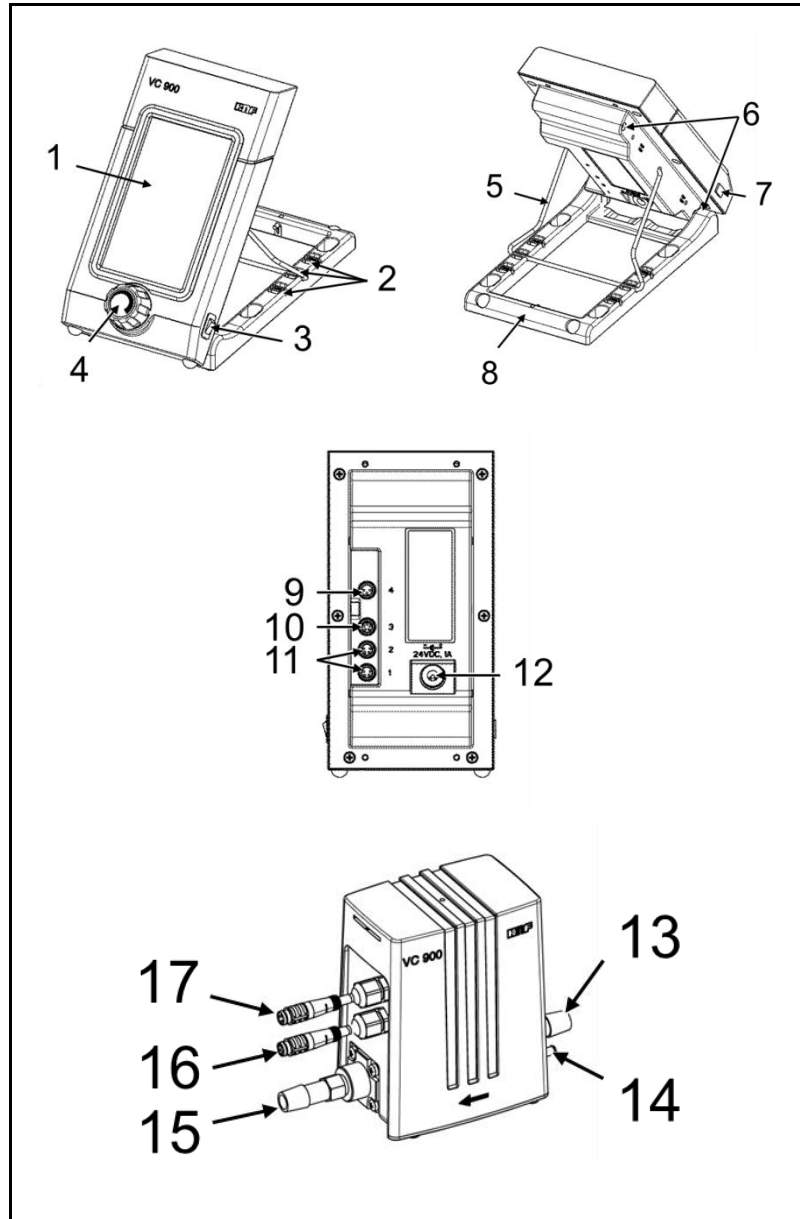

Fig. 1: Vacuum Controller VC 900
Ventilating the VC 900	When ventilating the VC 900 with air or inert gas, be sure to prevent formation of reactive or explosive media. The maximum permissible operating pressure at the ventilation connection (Fig. 1/14, p. 12) is 0.1 bar g.
You can operate the vacuum controller either via the touch display and the rotary/push knob (Fig. 1/1 and 4, p. 12) or via a PC. Use the mini USB interface for PC operation (7).
The angle of the vacuum controller can be adjusted by the positions of the foot and the wire support (mounting options, see Fig. 1/2).
1. Connect the vacuum chamber and the vacuum source to the hose connectors of the control unit (Fig. 1/13 and 15, p. 12).
Connect the inert gas feed to the ventilation connection (Fig. 1/14, p. 12). Observe the corresponding safety precautions in Chapter 3.
3. Connect the cable for the pressure sensor (Fig. 1/17, p. 12) to the 3-pole socket on the back of the vacuum controller (Fig. 1/9, p. 12).
4. Connect the cable for the valves (Fig. 1/16, p. 12) to one of the two 4-pole sockets on the back of the vacuum controller (Fig. 1/11, p. 12).
5. If necessary, connect the interface cable (accessories) to the variable KNF pump and the vacuum controller VC 900 (Fig. 1/10).
6. Connect the power supply to the vacuum controller (Fig. 1/12, p. 12) and plug it into a properly installed safety socket.
<ul style="list-style-type: none"> ▪ All hoses attached properly ▪ Specifications of the power supply correspond with the data on the vacuum controller's type plate ▪ Vacuum controller at ambient temperature ▪ If the vacuum controller is ventilated through the inert gas connection (Fig. 1/14, p. 12) no reactive, explosive, or otherwise dangerous mixtures can form (use inert gas if necessary)
→ Switch on the vacuum controller at its I/O switch (see Fig. 1/3, page 12).
→ Switch off the vacuum controller at its I/O switch (see Fig. 1/3, page 12).
- a rotary/push knob (Fig. 1/4) and